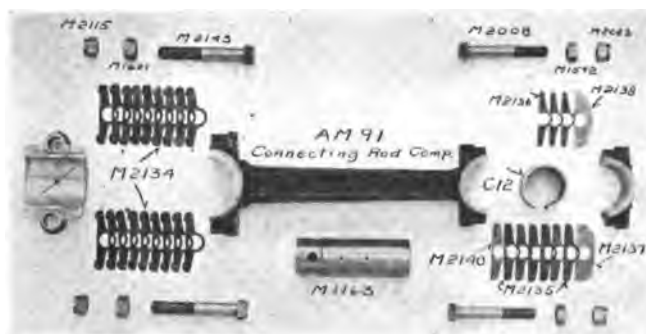

Fig. 7. Connecting Rod Assembly for the "75" Engine.
- 65 — The wrist pin bearing, also called the piston pin bearing, is a bronze bushing open on one side that fits over the piston pin and is clamped inside the cap that fits over the upper end of the connecting rod. The bronze bushing C 12, in Fig. 7, is prevented from turning by the shim, M2137, that fits in the open side of the bronze bushing. The upper end of the connecting rod assembly can move sideways on the piston pin about $\frac{1}{8}$ inch. If the crank end of the connecting rod bearing is properly cared for, there will be but little trouble with the wrist pin bearing.
66 — Fig. 7 shows a connecting rod assembly for the "75" engine.